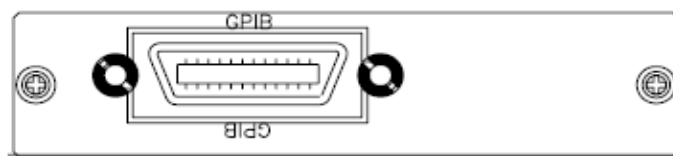

Fig 2-5 3300F REAR PANEL
- Screwdriver only for the removal of screws. Fig 2-5 shows the rear Panel of 3300F mainframe, The GPIB address of the 3300F mainframe is Set on front panel.